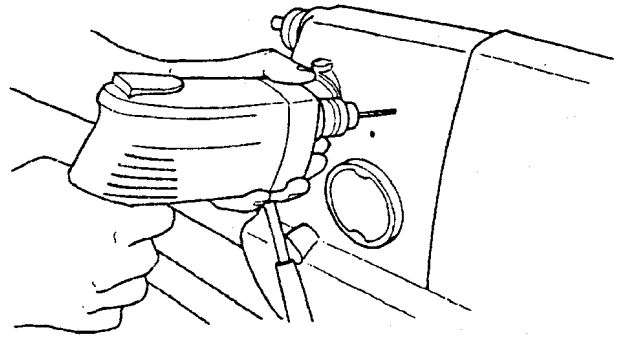

Fig. 5
7. Use a variable speed drill and the drill bit provided to drill the two holes. Make sure the drill bit is always perpendicular so the holes will be straight. See Fig. 5.